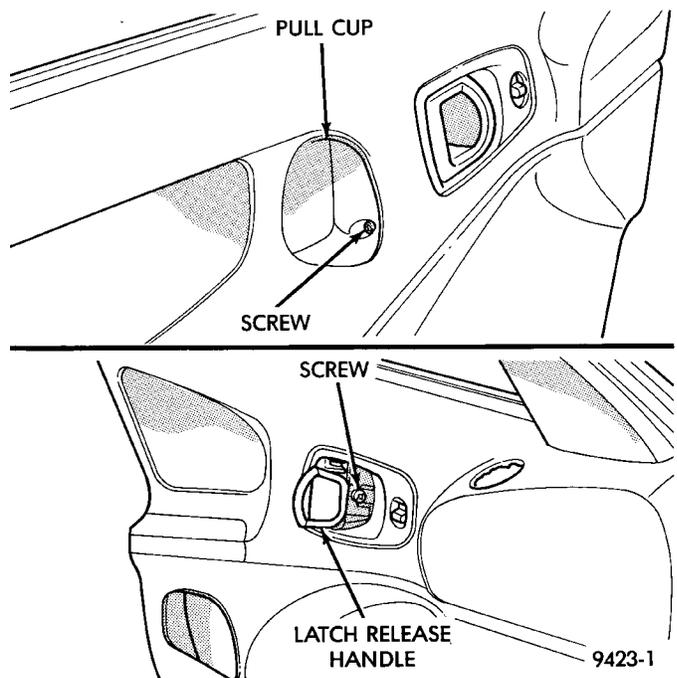

Fig. 9 Front Door Trim
- (4) Remove screw from inside arm rest pull cup (Fig. 9).
- (5) Pull and hold inside latch release handle away from door trim.
- (6) Remove screw from behind inside latch release handle (Fig. 9).
- (7) Disengage push-in fasteners holding trim to door panel around perimeter of trim panel.
- (8) Tilt trim panel outward to clear locator pins on backside of trim panel.
(9) Disengage trim panel from retainer channel in inner belt weatherstrip at top of door by lifting while gently jiggling.
(10) Move trim panel away from door and disengage clip holding latch rod to handle.
(11) Separate latch rod from handle.